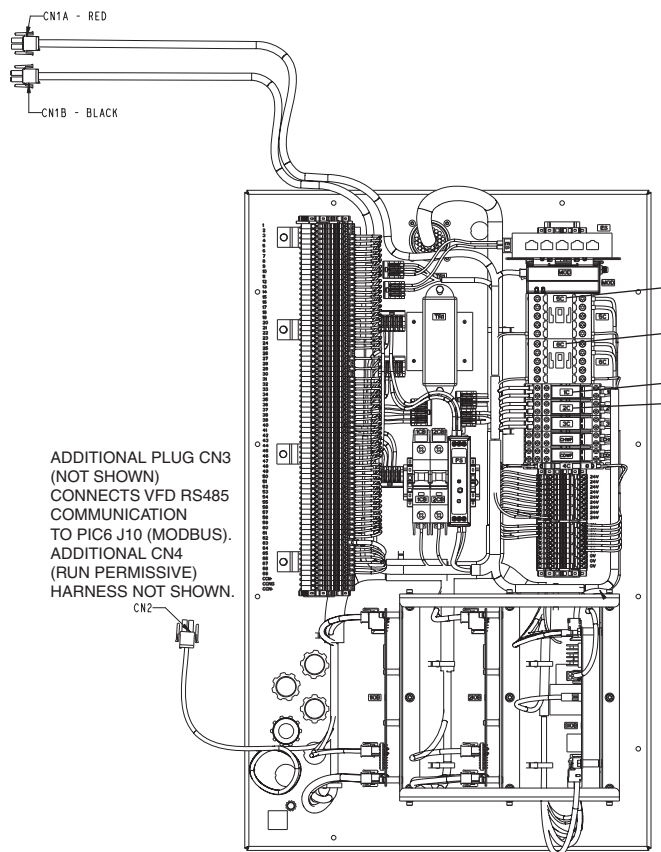

Fig. 26 — Control Panel Connectors
9. Unplug connectors CN1A, CN1B, CN2, CN3, and CN4 (Fig. 26).
10. Disconnect the control panel ground wire located next to connectors CN1A and CN1B (see Fig. 26 for all compressors).